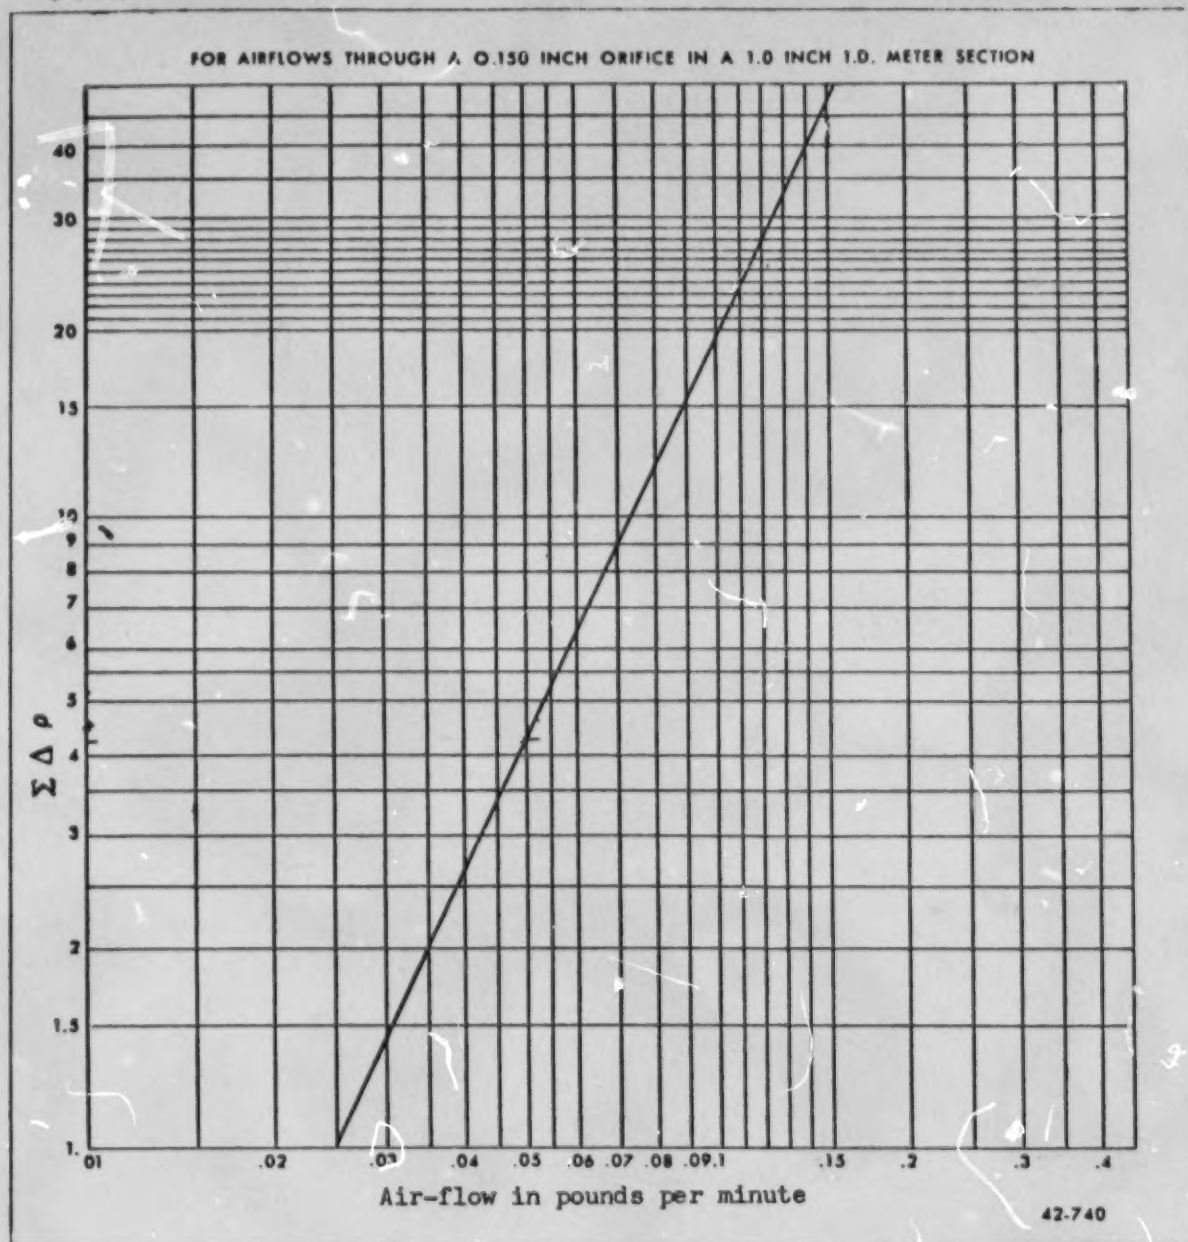

Figure 4. Air Flow Chart.
STEP 9: Figure 4 is a flow chart that will show the allowable leakage of a valve when the leakage test is made using an .150 orifice. Since the 3038 trainer has this type of an orifice, let us see how the flow chart works.
(1) Find the conversion factor (28) on the left side of the chart. Follow that horizontal line to the right until it intersects with the diagonal line.